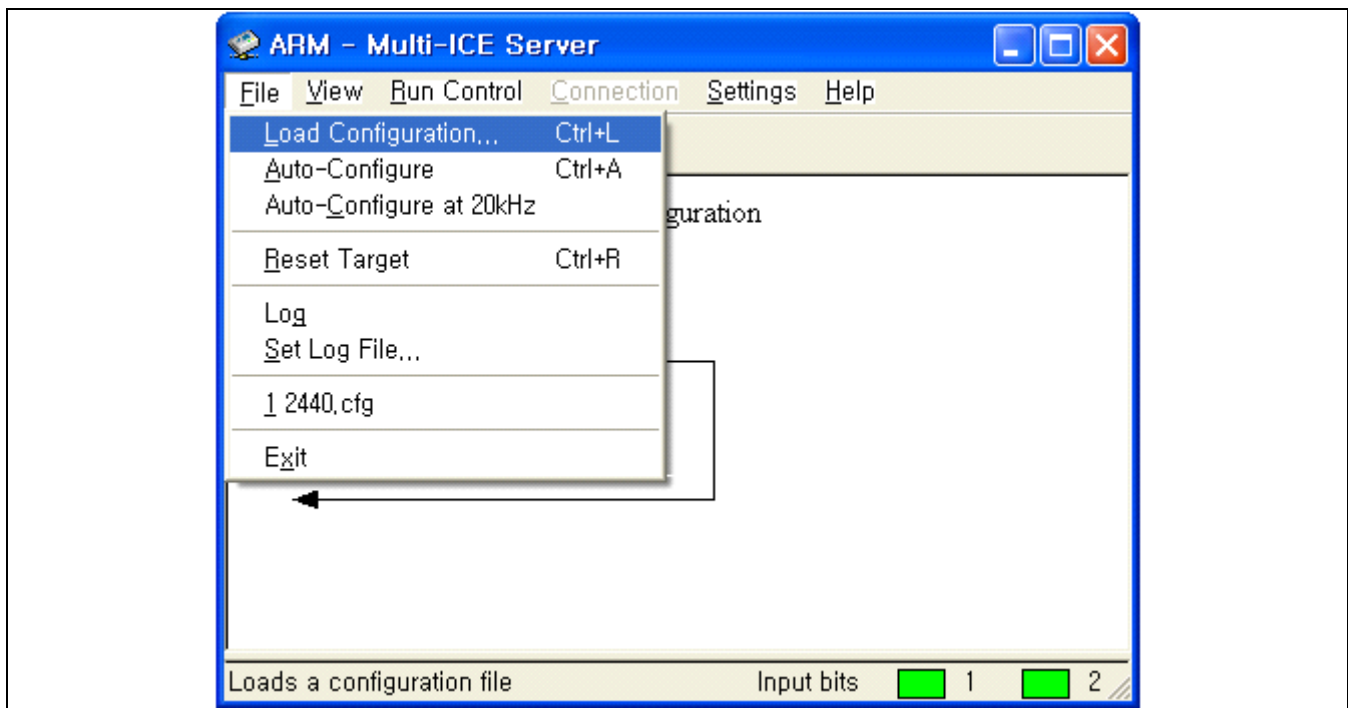

Figure 2-8. Load Configuration
3. Select Load Configuration from File menu and load 2440.CFG (See Figure 2-8).